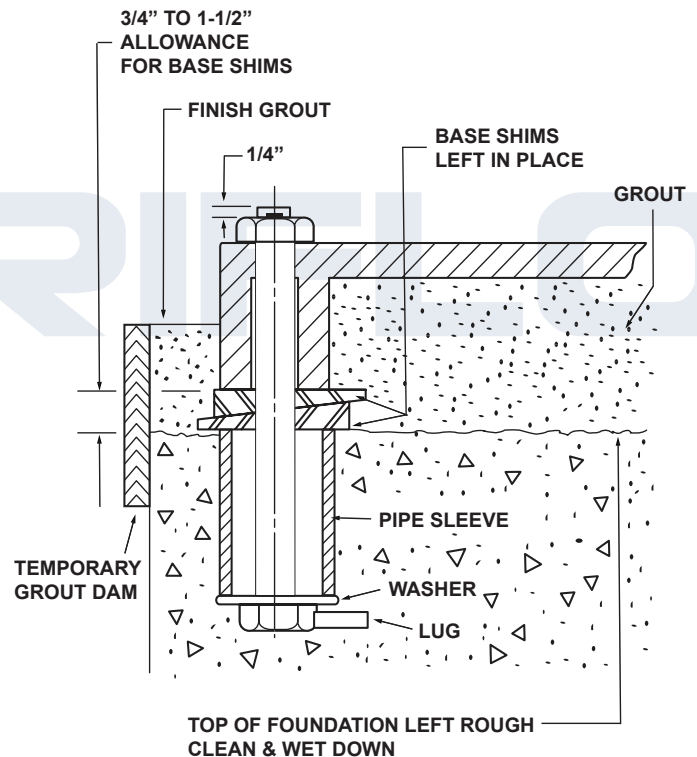

FIGURE 2 - BASEPLATE FOUNDATION
1. The pump foundation should be located as close to the source of the fluid to be pumped as practical. There should be adequate space for workers to install, operate and maintain the pump including room to remove the unit for maintenance at a future date. The foundation should be sufficient enough to absorb any vibration and should provide a rigid support for the pump and driver. The foundation's mass should be three (3) times that of the complete installed assembly (at a minimum). Recommended alignment of the baseplate is accomplished by adjusting the mounting hardware. After alignment, the baseplate is supported by metallic shims or wedges. These metallic shims or wedges are used to support the baseplate during the process of concrete pouring (grouting) of the anchor bolts. In order to avoid torsional twisting of the baseplate during the installation process, metallic shims or wedges should be placed as close to the anchor bolt locations as possible. The metallic shims or wedges are fixed permanently in location by pouring grout at a later step.
2. Special attention must be paid to the baseplate during the foundation installation making sure stress is not induced on the baseplate. Recommended mass of the concrete foundation should be three (3) times that of the complete installed assembly (at a minimum). Note that foundation bolts are imbedded in the concrete inside a sleeve to allow some movement of the bolt making installation easier.
3. Level the pump baseplate assembly. If the baseplate has machined coplanar mounting surfaces, these machined surfaces are to be referenced when leveling the baseplate. This may require that the pump and motor be removed from the baseplate in order to reference the machined faces. If the baseplate is without machined coplanar mounting surfaces, the pump and motor are to be left on the baseplate. The proper surfaces to reference when leveling the pump baseplate assembly are the pump suction and discharge flanges. **DO NOT** stress the baseplate. **DO NOT** bolt the suction or discharge flanges of the pump to the system piping until the baseplate foundation is completely installed. Use shims and wedges to level the baseplate to the foundation. See FIGURE 2. Check for level in both the longitudinal and lateral directions. Shims or wedges should be placed at all baseplate anchor bolt locations and in the middle of the baseplate if the base